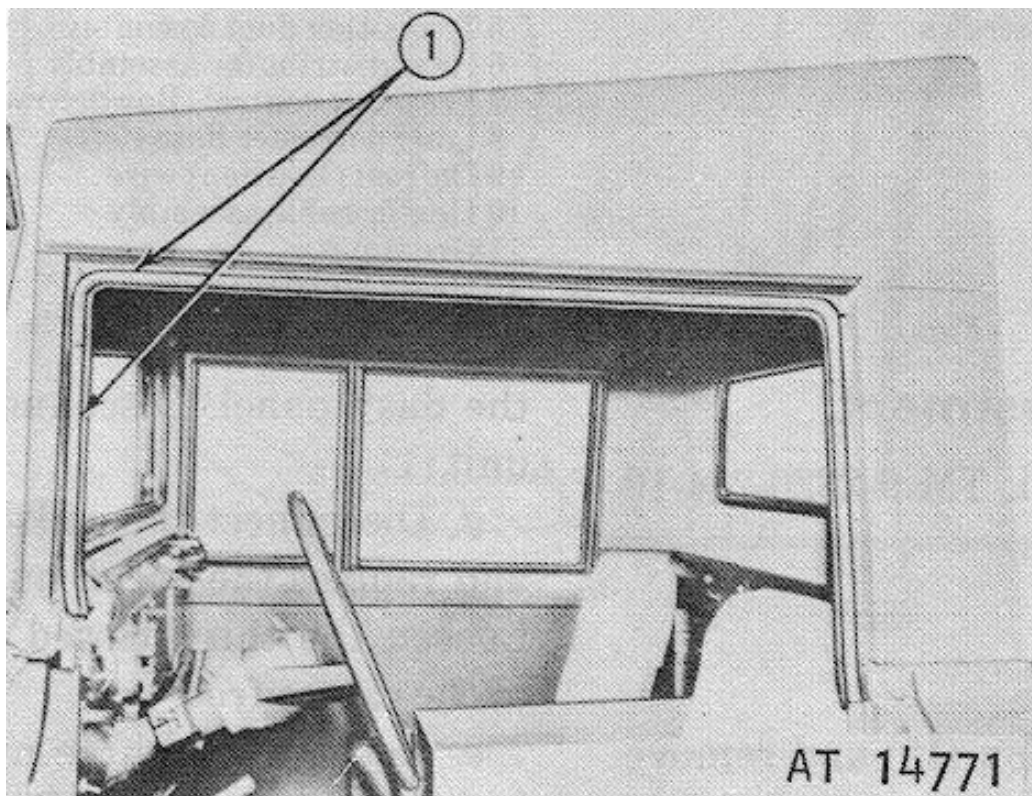

FIGURE 3-16. Weatherseal Installation.
- b. Examine metal panels for signs of corrosion or fatigue at joints and attaching holes. Clean corrosion g. Install weatherseal to cab door frame opening at joints and attaching holes. Paint with primer (fig 3-16). followed by finish coat.
- g. Install weatherseal to cab door frame opening (fig 3-16).